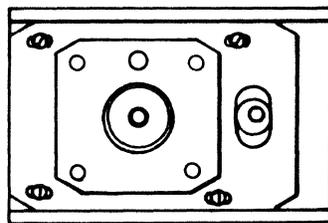

FIGURE 46. MOTOR PLATE
- f. Loosen the two or four mounting screws, which hold the motor plate to the support bracket (Refer to Figure 46).
- h. When the lobes are of an equal amplitude, tighten the motor plate mounting screws (Refer to Figure 46).